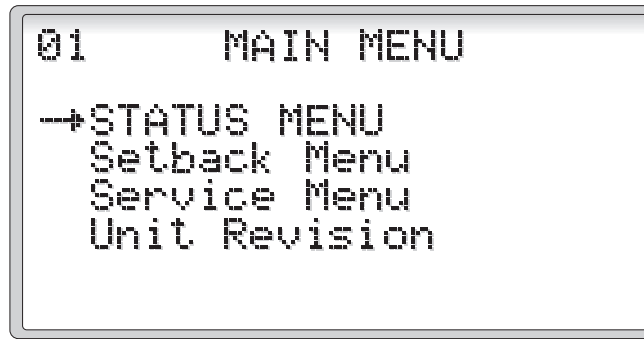

Figure 4
2.3 Main Menu (Figure 4)
Pressing the **Esc** key from the Home Screen displays the MAIN MENU (Figure 4). This menu allows the operator to select the STATUS MENU, set an Occupancy Schedule, enter the Service Menu and view the Unit Revision.